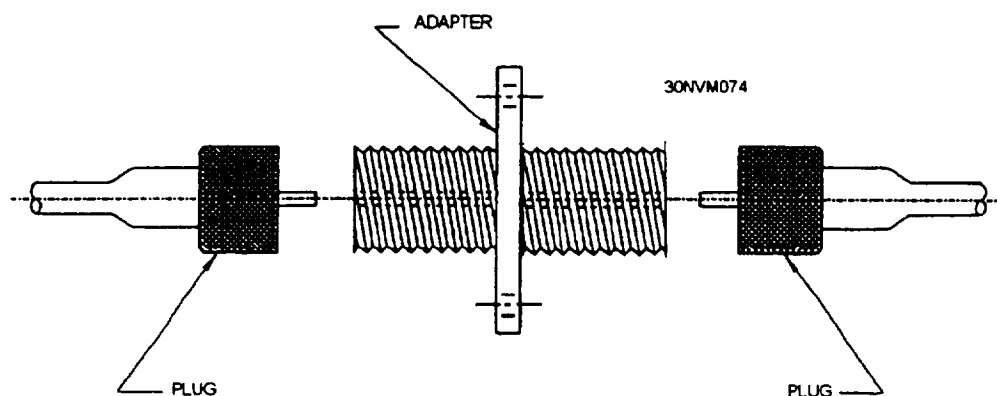

Figure 6-10.—Plug-adapter-plug configuration.
**Butt-jointed connectors** and **expanded-beam connectors** are the two basic types of fiber-optic connectors. Fiber-optic **butt-jointed connectors** align and bring the prepared ends of two fibers into close contact. The end faces of some butt-jointed connectors touch, but others do not, depending upon the connector design. Types of butt-jointed connectors include cylindrical ferrule and biconical connectors. Figure 6-9 shows a basic ferrule design. Fiber-optic **expanded-beam connectors** use two lenses to first expand and then refocus the light from the transmitting fiber into the receiving fiber. Single fiber butt-jointed and expanded-beam connectors normally consist of two plugs and an adapter (coupling device) (fig. 6-10).